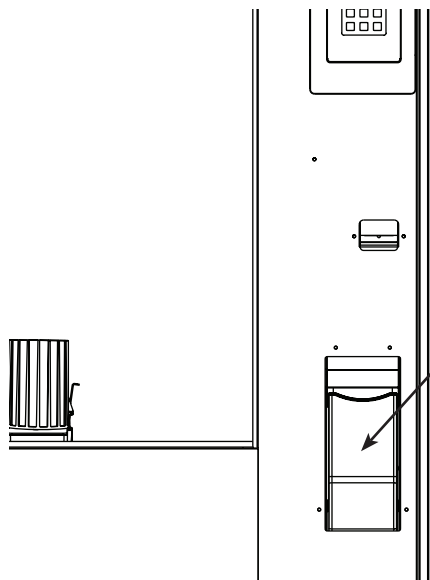
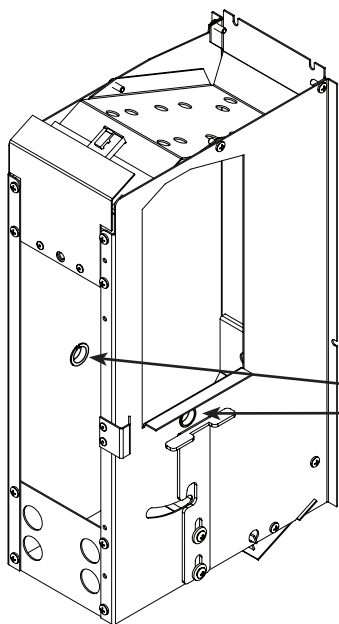

FIGURE 5.18.
FIGURE 5.19.
1. If the display does not change, check to make sure the port bin is flush with the door. Also, make sure the port bin is relatively clean inside and clear of any debris that could be blocking the emitter and detector boards' infrared beam. (Refer to Figure 5.18.) If the port bin is hanging open, reset the security latch on the port bin. (Refer to Figure 5.19.) If it doesn't reset, check the white port bushings on each side of the port assembly. (Refer to Figure 5.20.) If the bushings are broken, replace them.